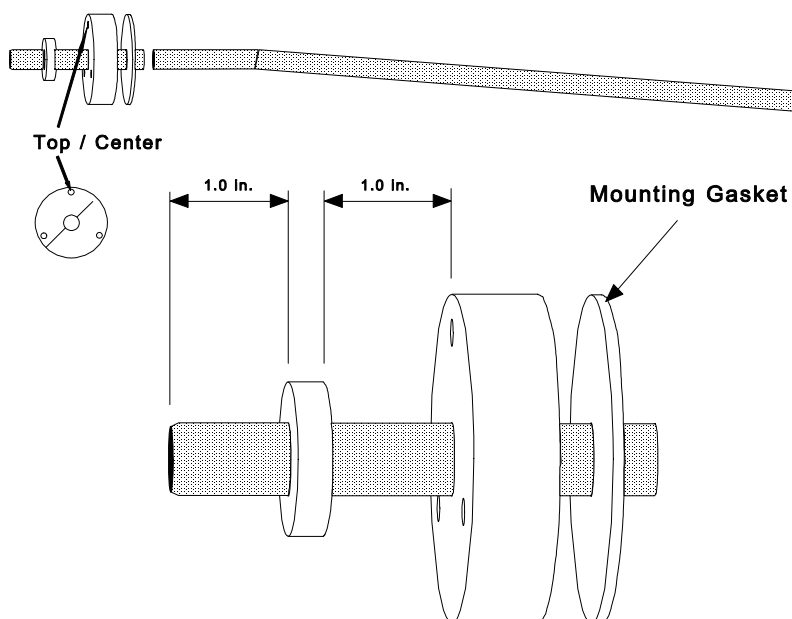

Figure 3.3 Probe Barrel Assembly
- A) Inspect the Probe Barrel Assembly for proper flange spacing and orientation (factory set): please see Figure 3.3 on the following page.
- D) Insert the three (3) supplied 1/4-20 X 1-3/4 inch bolts through the probe mounting flange into the threaded holes, and tighten.